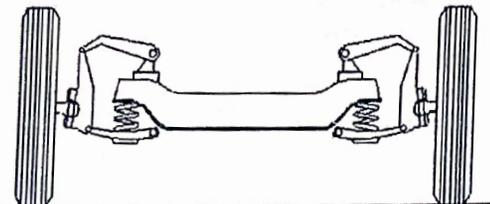

Figure 6
15. Identify the type independent suspension system shown in figure 6 below